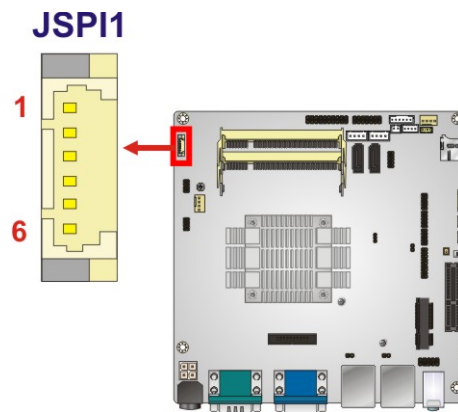

Figure 3-25: SPI Flash Connector Location
- CN Location:** See **Figure 3-25**